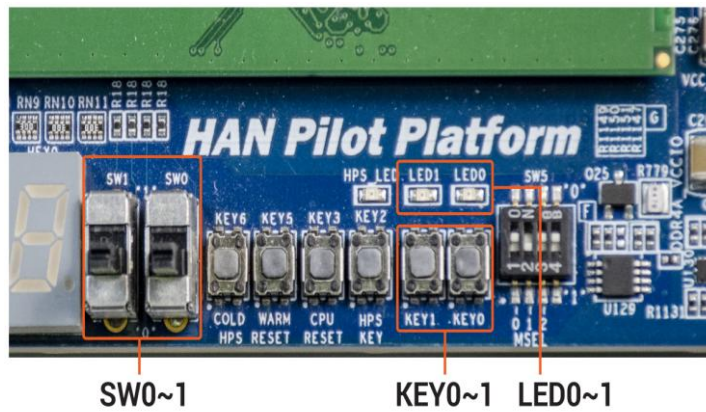

Figure 4-14 KEYS/SWs/LEDs locations on HAN board
- **Figure 4-14** Shows the locations of buttons/switches/LEDs on HAN board: